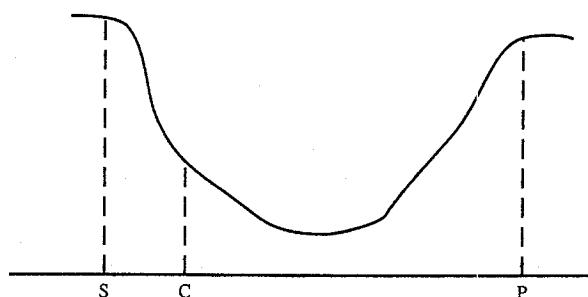

FIG 3
6. Adjust T104 until the picture marker (39.5MHz) appears and response as shown in figure 3 is obtained.